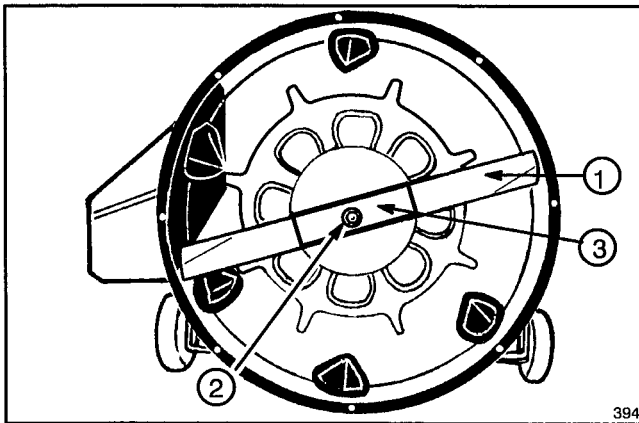

Figure 21
4. Grasp end of blade using a rag or thickly padded glove; then remove blade bolt, curved washer, blade stiffener and blade (Fig. 21).
7. In sequence, install blade, blade stiffener, curved washer and blade bolt (Fig. 21). The concave side of the curved washer must point toward the blade. Tighten blade bolt to 45-60 ft-lb (61-81 N·m).